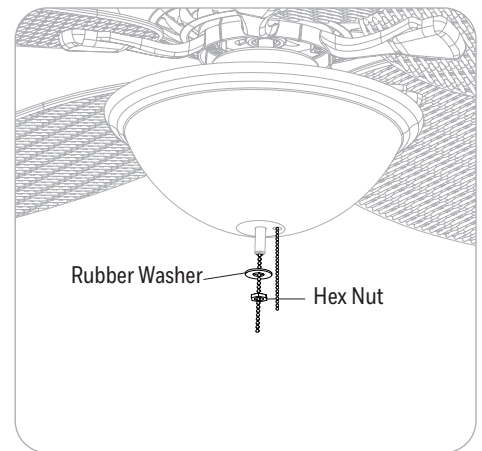

Figure 4.9
9. Feed the pull chain coming from the switch housing through the off-center in the glass bowl. Then, feed the pull chain coming from the center of the light kit through the center hole in the glass bowl. Secure the glass bowl with rubber washer and hex nut (Figure 4.9).